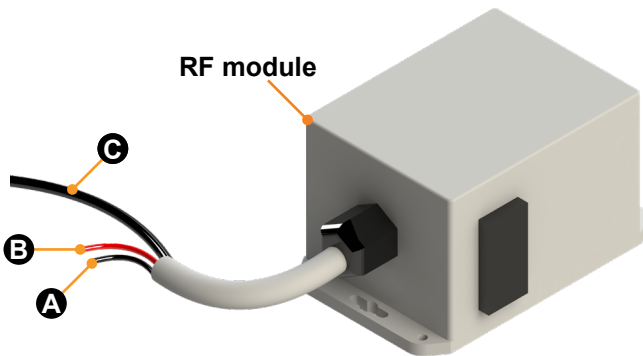

Fig.4
1. Place the RF (radio frequency) module box (Fig.4) in close proximity to the vessel's power source.